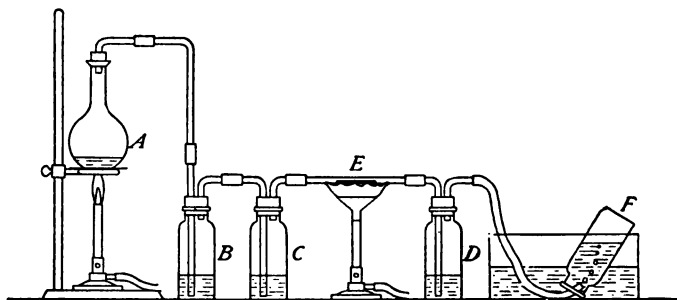

FIG. 47
a. Arrange an apparatus according to Fig. 47. The flask *A* should have a capacity of from 100 to 150 cc. The bottle *B* contains a solution of sodium hydroxide, and *C* and *D* contain solutions of limewater. The hard-glass tube *E* (12 to 15 cm. in length) contains, near its middle, a layer of 1 or 2 g. of black copper oxide. The whole apparatus must be air-tight. After the apparatus has been approved by the instructor, put 7 or 8 g. of oxalic acid ( $\text{H}_2\text{C}_2\text{O}_4$ ) into the flask *A*,